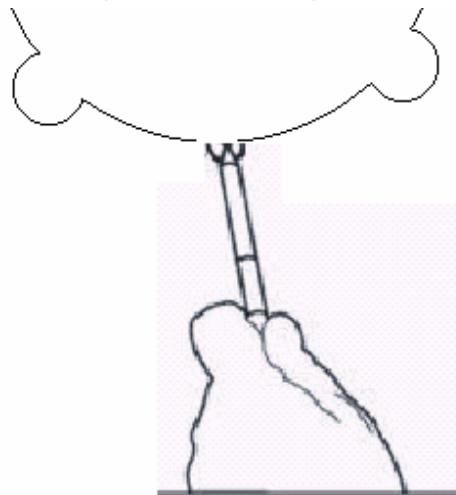

图 32
- 2) Base on the red spot to draw the sign (reference to Figure 32)